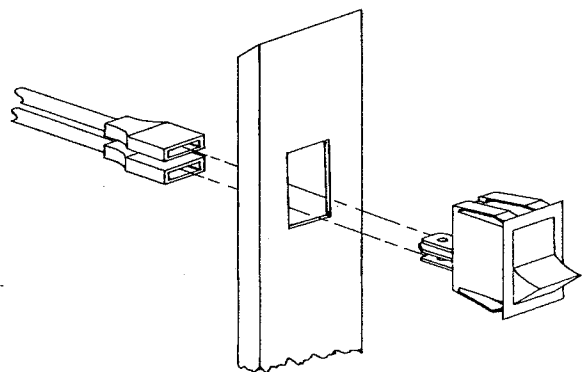

Figure 16b
- 6b. Push the burner switch through the hole in the right hand faceplate trim and connect the two blue wires to the switch connectors (see Figure 16b).